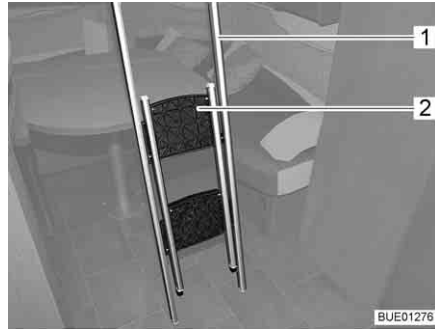
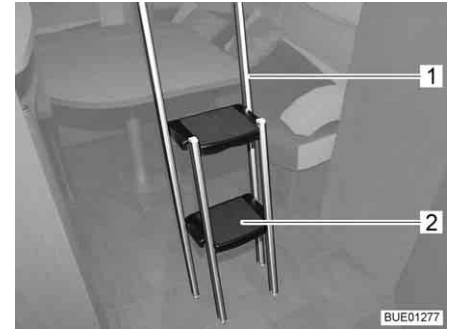

Fig. 102 Access ladder, folded in
Fig. 103 Access ladder, folded out
- Hook access ladder (Fig. 100,5 or Fig. 102,1) to the pull-down bed by attaching the two hooks (Fig. 100,4) in the holding bar (Fig. 100,3).
- Grasp the upper edge of the folded-up part (Fig. 102,2) of the access ladder and unfold it so that all four feet are securely on the ground (Fig. 103).
- To remove the access ladder (Fig. 103,1) fold in the steps (Fig. 103,2).